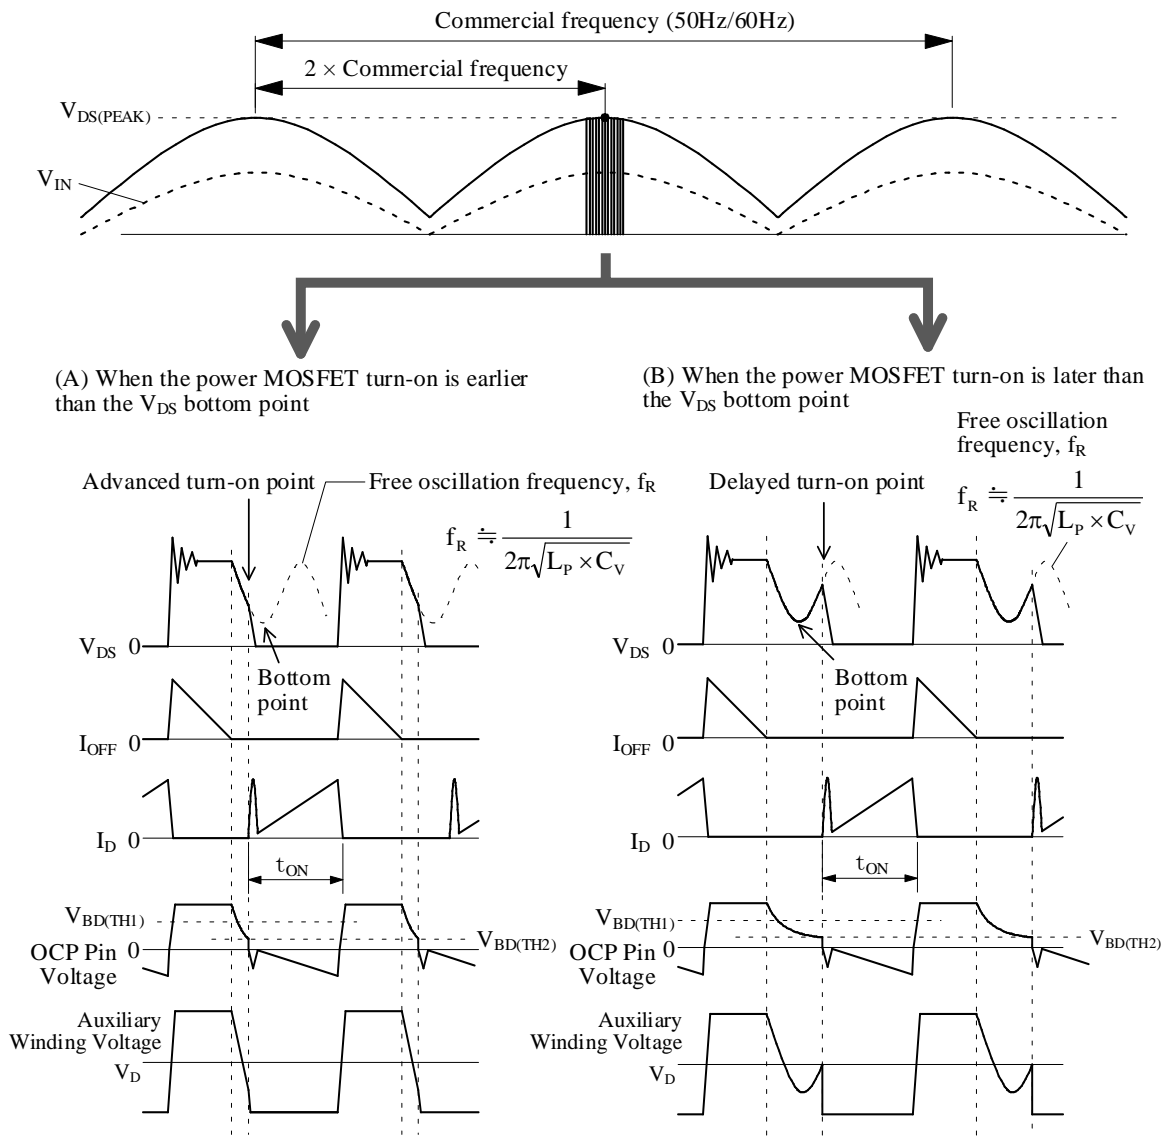

Figure 9-17. V_{DS} Waveforms at the $V_{DS(PEAK)}$
- When the power MOSFET turn-on is earlier than the V_{DS} bottom point at the $V_{DS(PEAK)}$ as Figure 9-17 (A): Confirm the V_{DS} bottom point at the initial constant, and then increase the value of C7 gradually until the power MOSFET turn-on point matches the V_{DS} bottom point.
- When the power MOSFET turn-on is later than the V_{DS} bottom point at the $V_{DS(PEAK)}$ as Figure 9-17 (B): Confirm the V_{DS} bottom point at the initial constant, and then increase the value of C7 gradually until the power MOSFET turn-on point matches the V_{DS} bottom point.